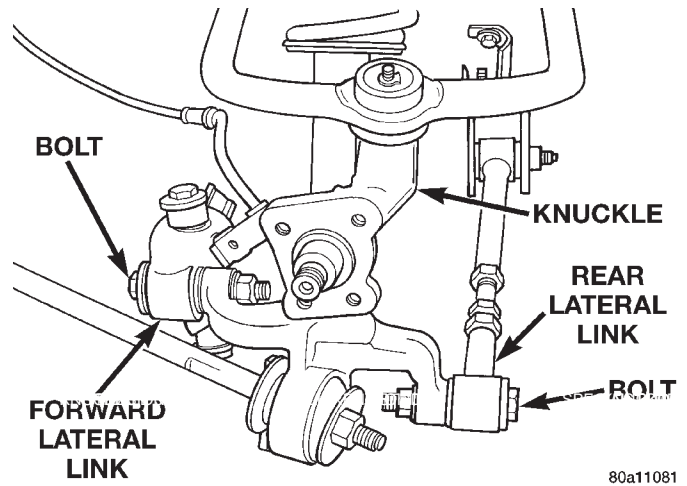
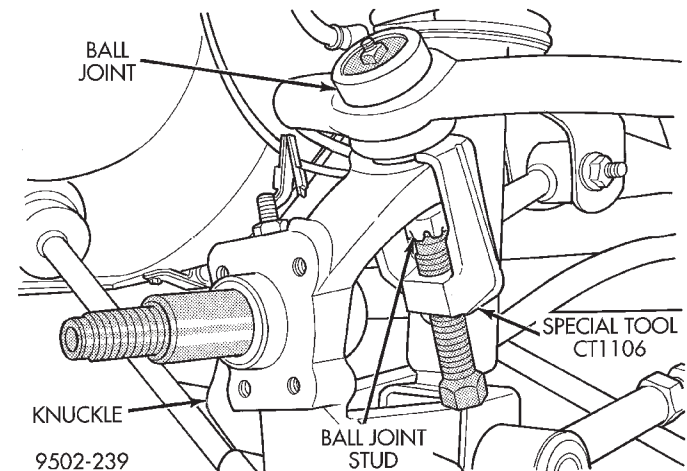

Fig. 15 Lateral Link Attachment To Rear Knuckle
Fig. 16 Removing Ball Joint Stud From Knuckle
(8) Remove the nuts and bolts attaching the forward and rear lateral links (Fig. 15) to the rear knuckle.
(9) Remove cotter pin and castle nut attaching upper control arm ball joint to knuckle.
(10) Remove ball joint stud from knuckle using Puller, Special Tool, CT-1106 (Fig. 16). When using puller, install castle nut on ball joint stud (Fig. 16) to protect threads from damage.
(3) Install the upper ball joint stud in the knuckle. Install and tighten the ball joint stud castle nut to a torque of 85 N·m (63 ft. lbs.). Install cotter pin in ball joint stud.
(4) Install the front and rear lateral links and attaching nuts and bolts on the knuckle (Fig. 15). Tighten the lateral links to knuckle attaching bolts and nuts to 108 N·m (80 ft. lbs.).